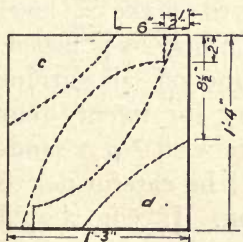

FIG. 41.—METHOD OF CUTTING OUT LEGS OF CLOTHES TREE.
3. Laying out, planing, and sawing legs. — The dotted lines of Fig. 41 show how two legs may
be laid out on one piece $15'' \times 16''$ with the least waste of lumber. The curves are not arcs of circles and so must be laid out free hand, after locating the points as indicated in Fig. 41.